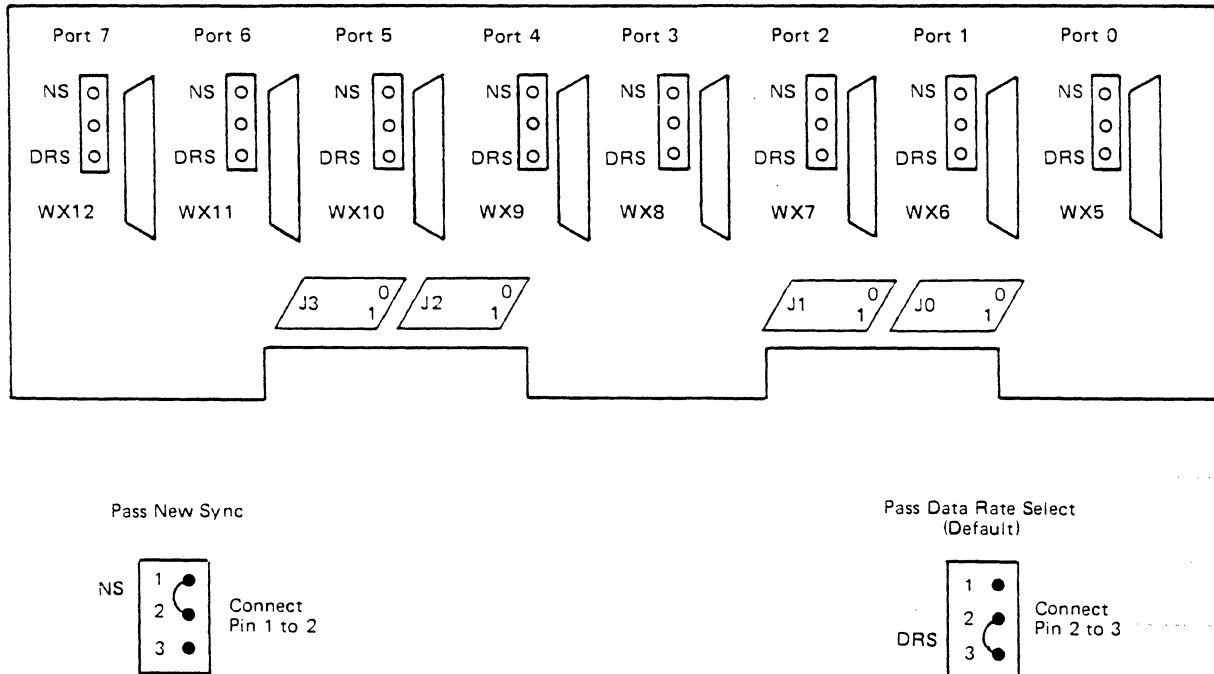

Figure 9-12. EIA/8 (V.24) DCE I/O Panel, Pin Side
The EIA/8 (V.24) DCE I/O panel features jumpers that allow the EIA ports to pass the New Sync (NS) signal. Figure 9-12 shows the EIA/8 (V.24) DCE I/O panel jumper diagram. To pass the NS signal, connect pins 1 to 2 at jumper area WX(N).